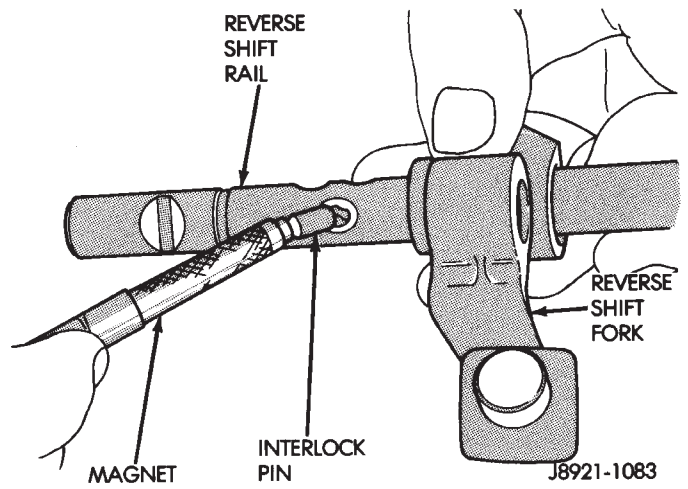

Fig. 53 Reverse Shift Rail Interlock Pin Removal
(14) Remove interlock pin from reverse shift rail (Fig. 53).
(15) Position shift rails, shift forks, lock balls, interlock plugs and interlock pins on the workbench in order of removal. This will help in identifying components during inspection and assembly.